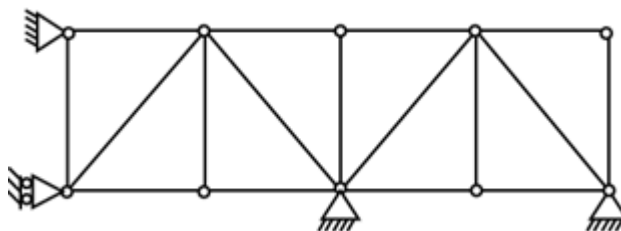

Figure 2 [Q-4 (b) (i)]
- Q - 4 (b)** i) Calculate Static Indeterminacy and Kinematic Indeterminacy for the following plane truss. **Refer figure 2.** [02]